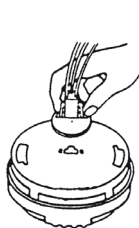

FIGURE 3
- Plug the AC QUICK CONNECTOR into the back of the strobe light, (see fig. 3) making sure that the locks on the connector snap into place. To remove AC connector, squeeze locking arm and pull.